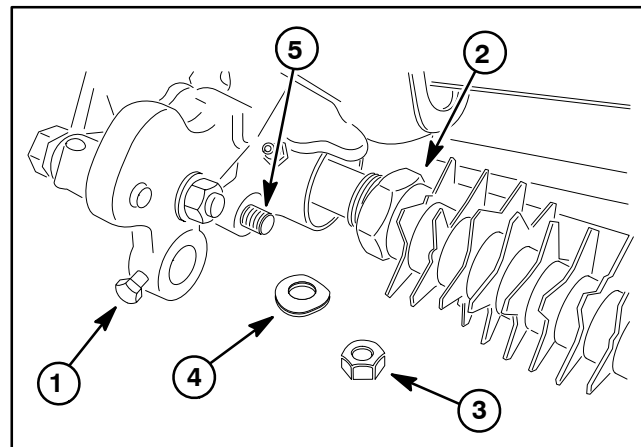

Figure 9
5. Remove groomer drive cover (item 2) and groomer drive belt (item 3) from groomer drive (see Groomer Belt Replacement in this section).
6. Loosen cap screws (item 10) that secure front roller shaft to groomer arms.
7. Remove lock nut (item 13) and spring washer (item 12) that secure RH groomer arm lift rod to RH drive plate assembly. Location of these items are shown in Figure 9.
8. Remove HOC nut (item 21), special washer (item 16) and plow bolt (item 22) that secure RH groomer arm assembly to RH drive plate assembly. Do not change height-of-cut screw adjustment. Remove RH groomer arm assembly from cutting unit.